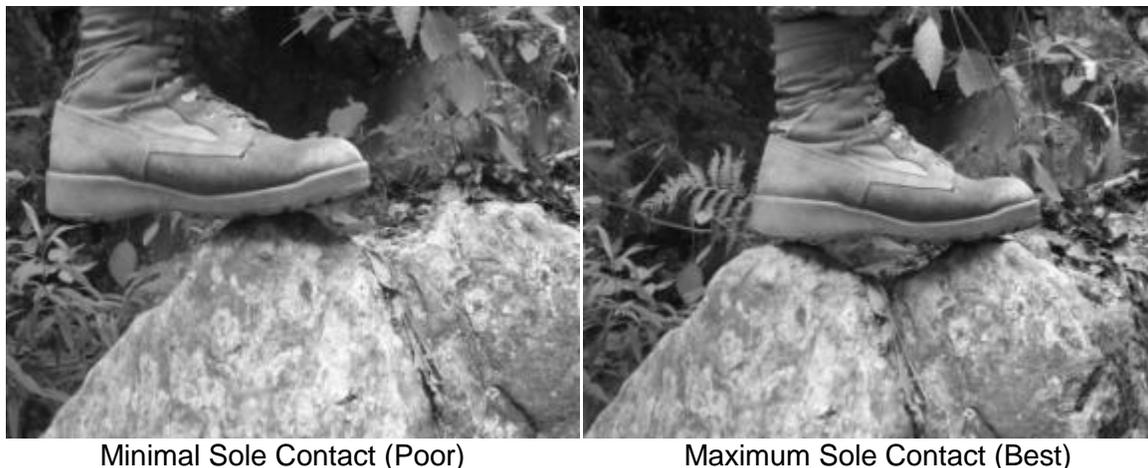

Figure 21-6
(3) Foot Holds. (Fig 21-6) On steep slopes, keep your body vertical; make use of small irregularities in the slope to aid friction. Footholds less than 1 ½ cm wide may be sufficient for intermediate holds, even when they slope out. Footwork in rock climbing is essential. Place feet carefully in the desired position and do not move them. Do not thrash about in hopes of finding something better. With marginal footholds it is mandatory not to rotate or move your foot once it is in place. Even a small change in position may cause your boot to slip. If wearing stiff boots, turn the foot sideways to get the stronger inside edge of the boot and foot on the hold. In very flexible boots or rock shoes, the foot may have to point uphill with the boot sole "smeared" or "covering" the small hold. If muscles are under too much strain for too long a time the leg may begin to vibrate. "Sewing machine leg" can be very annoying and dangerous. The best way to stop this vibrating is to change position by moving on, lowering the heel or straightening the leg.